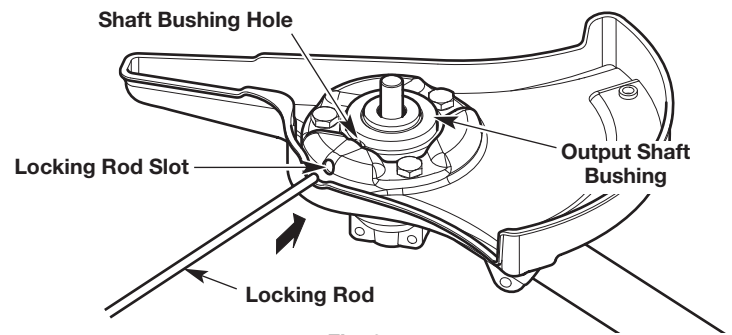
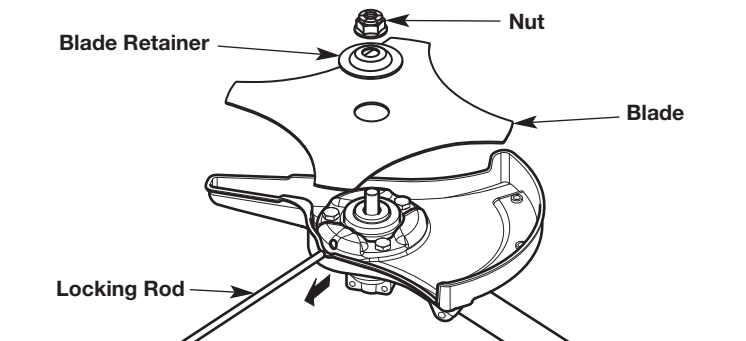

Fig. 27
Fig. 29
1. Rotate the blade (Fig. 29) until the shaft bushing hole aligns with the locking rod slot (Fig. 27).
2. Insert the locking rod through the locking rod slot and into the shaft bushing hole (Fig. 27).
5. Remove the locking rod (Fig. 29).
6. Remove the blade retainer and blade (Fig. 29).
1. Rotate the output shaft bushing until the shaft bushing hole aligns with the locking rod slot (Fig. 27).